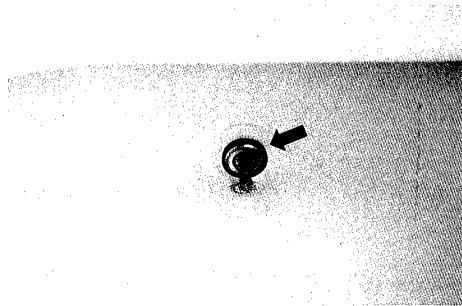

Figure 20
2. While the boat is running, remove the plug from the bottom of the baitwell. See figure 20.